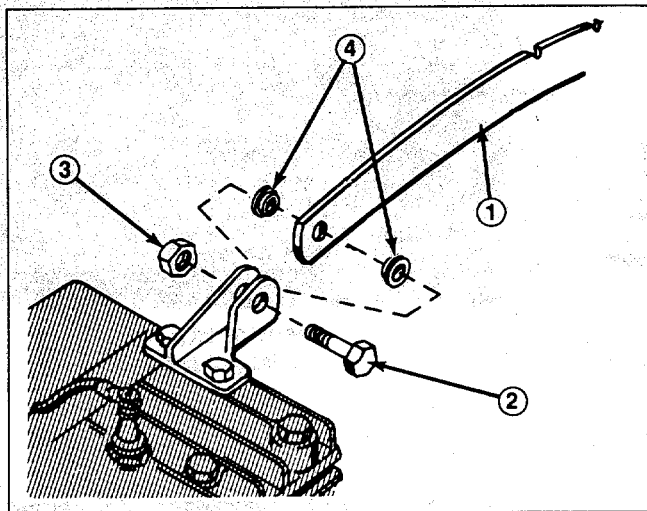

Figure 2
1. Remove capscrew, locknut and grommets from adjusting bar, align adjusting bar hole with holes in engine bracket, insert grommets and secure assembly with capscrew and locknut (Fig. 2).